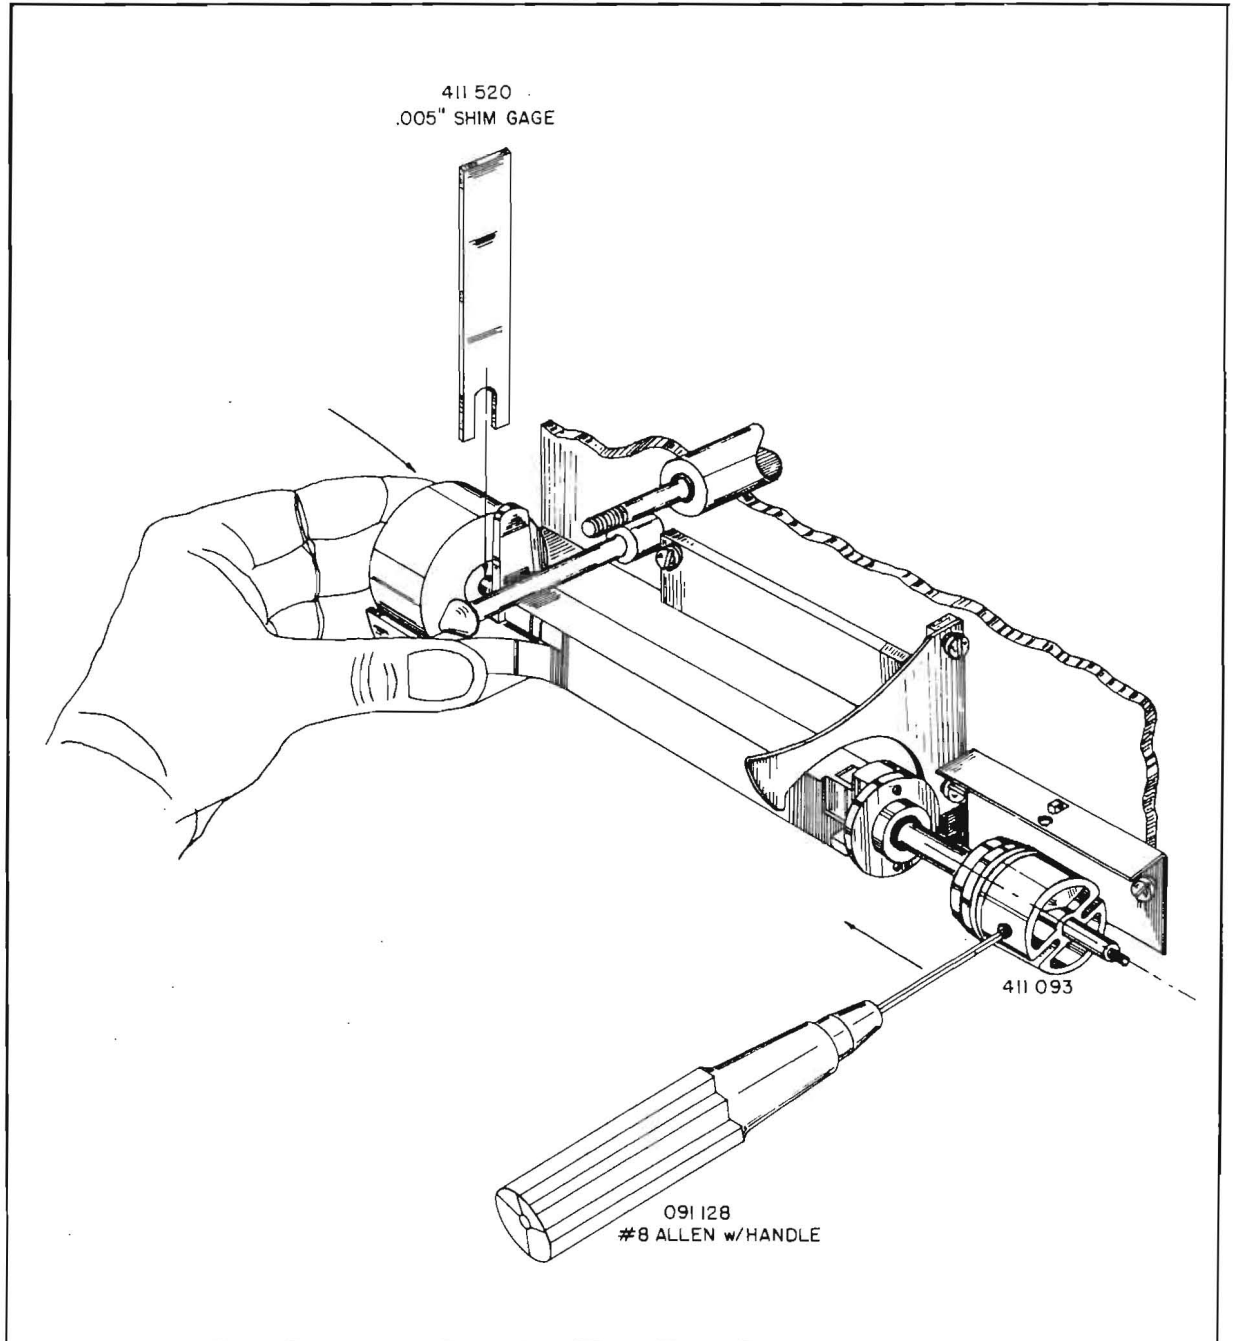

FIG. 17. 411093 Magnetic Recording Wheel Assembly Adjustment
4. 411093 Magnetic Recording Wheel Assembly (Figure 17).
the VTVM (Figure 17). After the potentiometer has been set, be sure to remove the 100 ohm resistor and resolder the ground lead of the magnetic heads back in place.